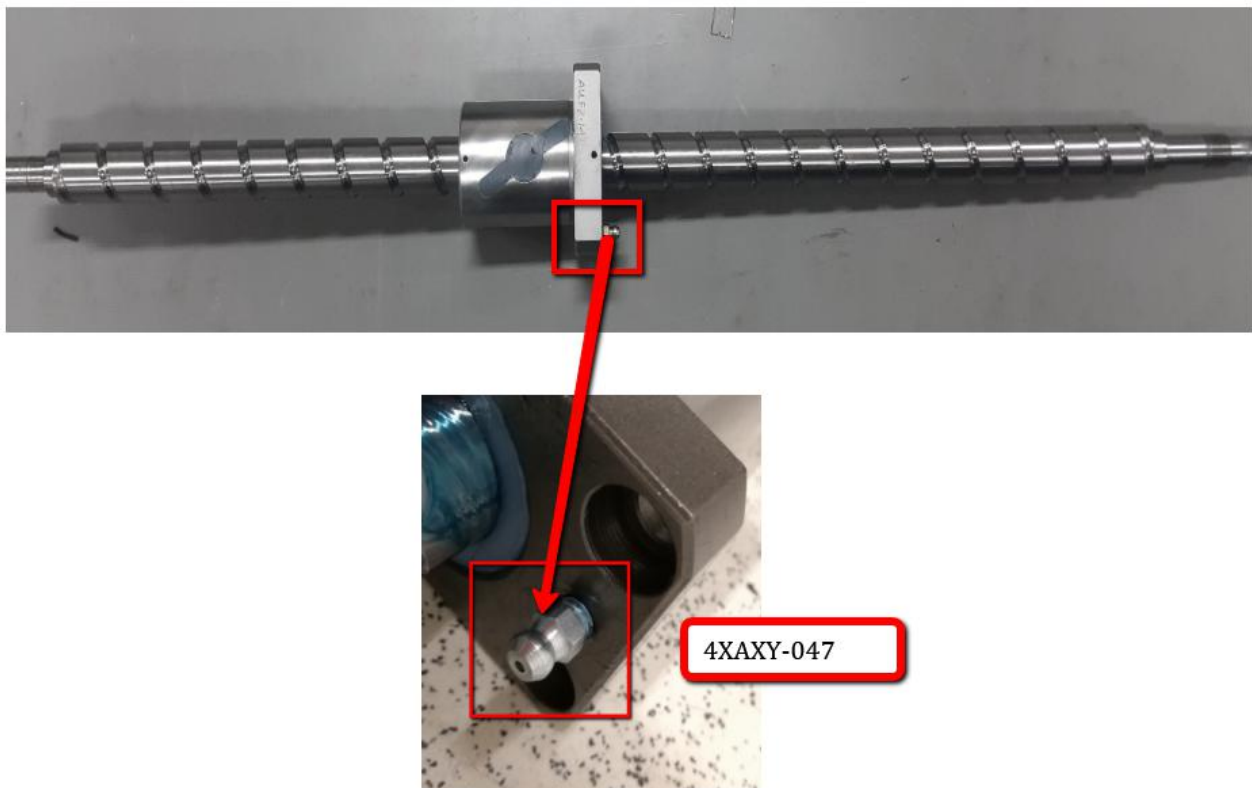

Figure 30 Grease Fitting Assembly
24. By using adjustable wrench, assemble the Grease Fitting, Straight, M6x13.5M (4XAXY-047) as below Figure 30.